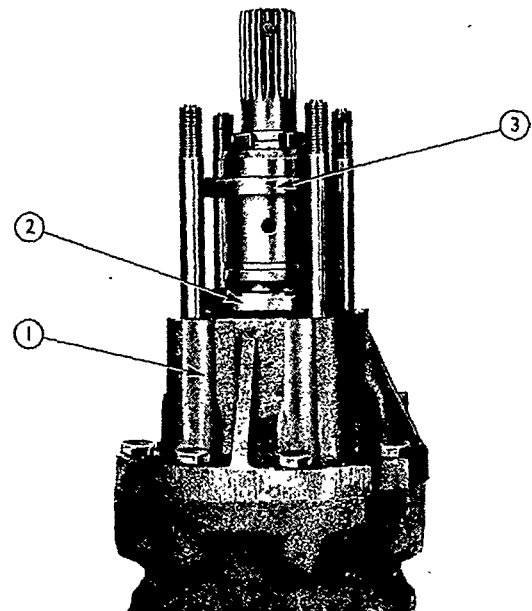

Figure 16
10. Examine the ball bearing cups, Figure 16, and balls for excessive wear, cracking or deformation; renew if necessary.
7. Install the bearing housing, Figure 16, and locate the lower bearing cup in the housing.
8. Rotate the valve until the ball bearing track lines up with the lower bearing cup and install the balls with clean grease, and the upper bearing, Figure 16.